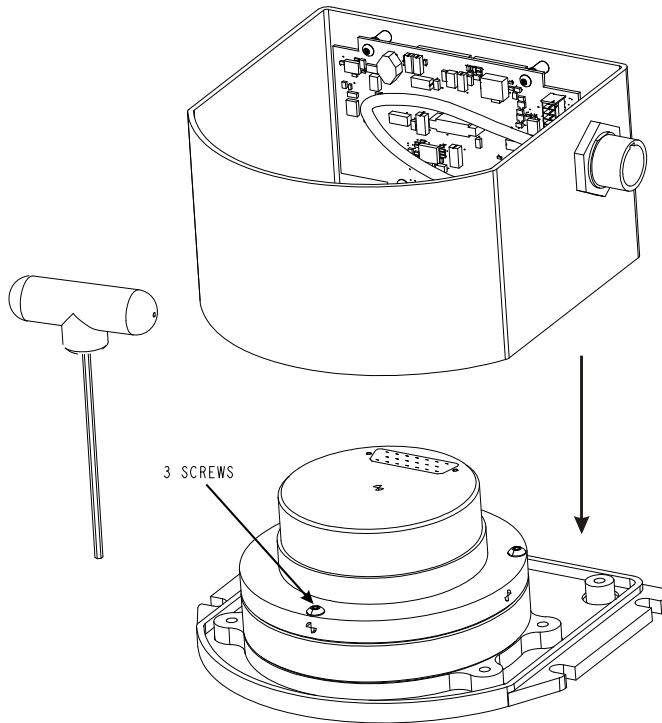

**Figure 34: Lift Top Cover, Tube Body and 3 Ring Spacer Screws**
3. Lift the top cover off the tube body and set it aside, as shown in *Figure 34* on page 165.